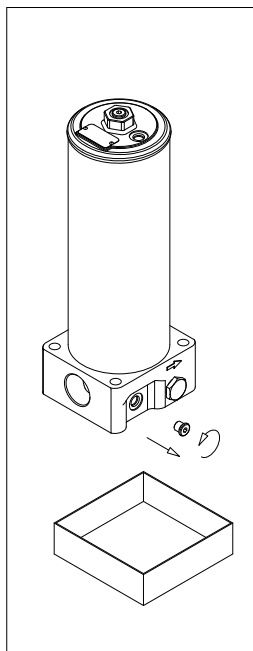

fig. 2
- (Fig. 2) Unscrew one of the two drain plugs after placing a vessel to collect the operating fluid